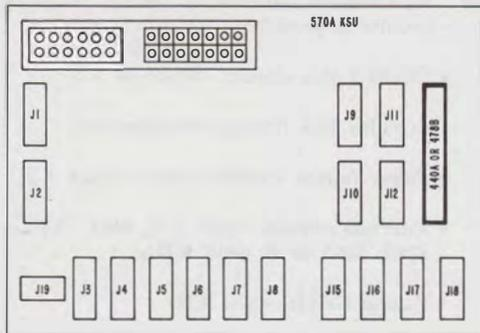

Fig. 59—Location of 440A (MD) or 478B KTU, TOUCH-TONE Adapter
4.95 Where TOUCH-TONE dial telephone sets are used with the 7A System; a 440A (MD) or 487B KTU (TOUCH-TONE adapter) is required. These are the only TOUCH-TONE adapters usable in this system and are installed in J13 and J14. See Fig. 59 for KTU location. The adapter converts the multifrequency tones from the telephone set dial to contact closures which supply ground to the proper leads in the code selector circuit, 424B or 424C KTU.